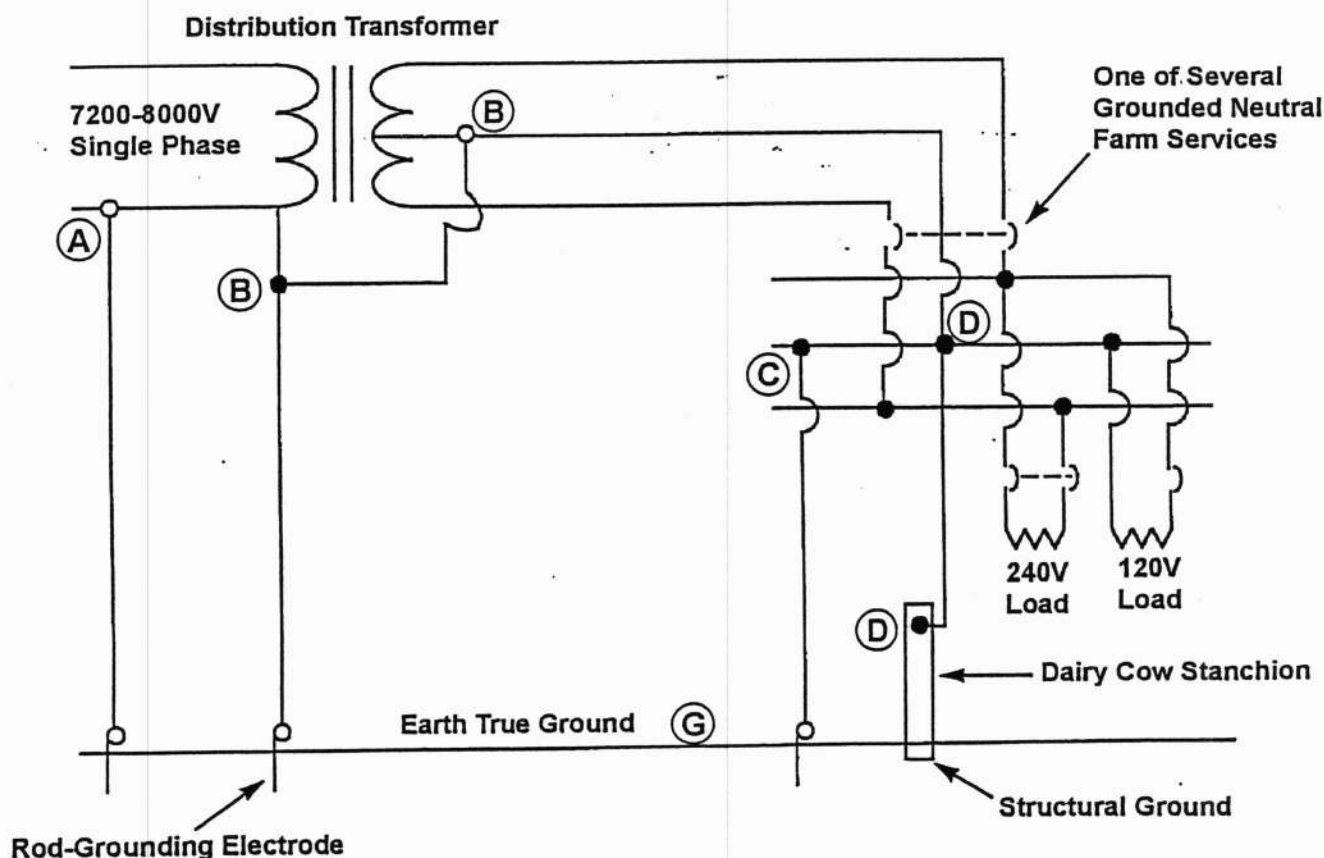

Figure 1: The Problem: Neutral Currents Have Multiple Paths to Flow Into and Through Earth and Primary and Secondary Neutrals.
Figure 1 illustrates the potential for stray voltage in multi-grounded power distribution systems. The primary phase and neutral conductors connect to a farmstead via the distribution transformer providing the farm with 240/120 volt service. Grounding is shown by means of ground rod connections on the primary neutral conductor (A), at the distribution transformer where the primary and secondary neutrals are linked to a common ground rod (B), and at the load center service point (C) with a ground rod also deployed. A dairy parlor cow stanchion or equivalent cow contact-point metallic structure (D) would contact the electrical service neutral directly or indirectly through the dairy parlor structure. This cow contact point will typically have a different voltage value to remote or true ground (G) than the voltage value at the dairy parlor floor where the cow stands during milking. The resulting voltage difference at cow contact points can force small currents to flow through the cow, agitating the cow and affecting milk production.
Previous solutions to minimize stray voltage have included the use of isolator devices such as arresters to create the effect of opening the primary to secondary ground bonding connection at the distribution transformer (Figure 1 "B"). Thus, primary and secondary neutrals are separated at the distribution transformer. This, in effect, creates two electrical system ground entities which are not metallically connected. The result is additional possible insulation stress between the windings of the distribution transformer plus safety concerns because of lightning surges that may create dangerous voltage gradients across isolated grounding systems.